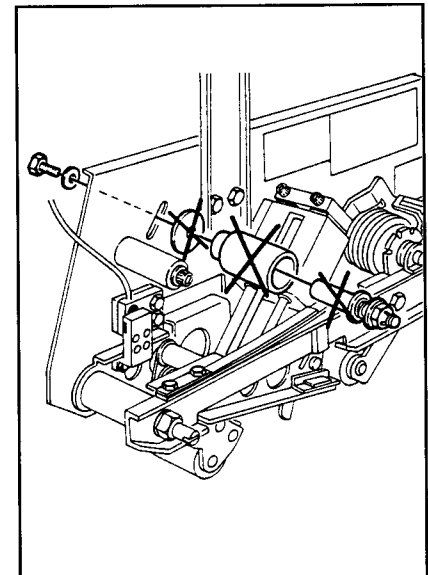

Figure 17
1. Remove the 1/4-20 hex head screw that fastens the tension roller shaft to the taping head side plate, remove the tension roller/shaft assembly and discard. See Figure 17.